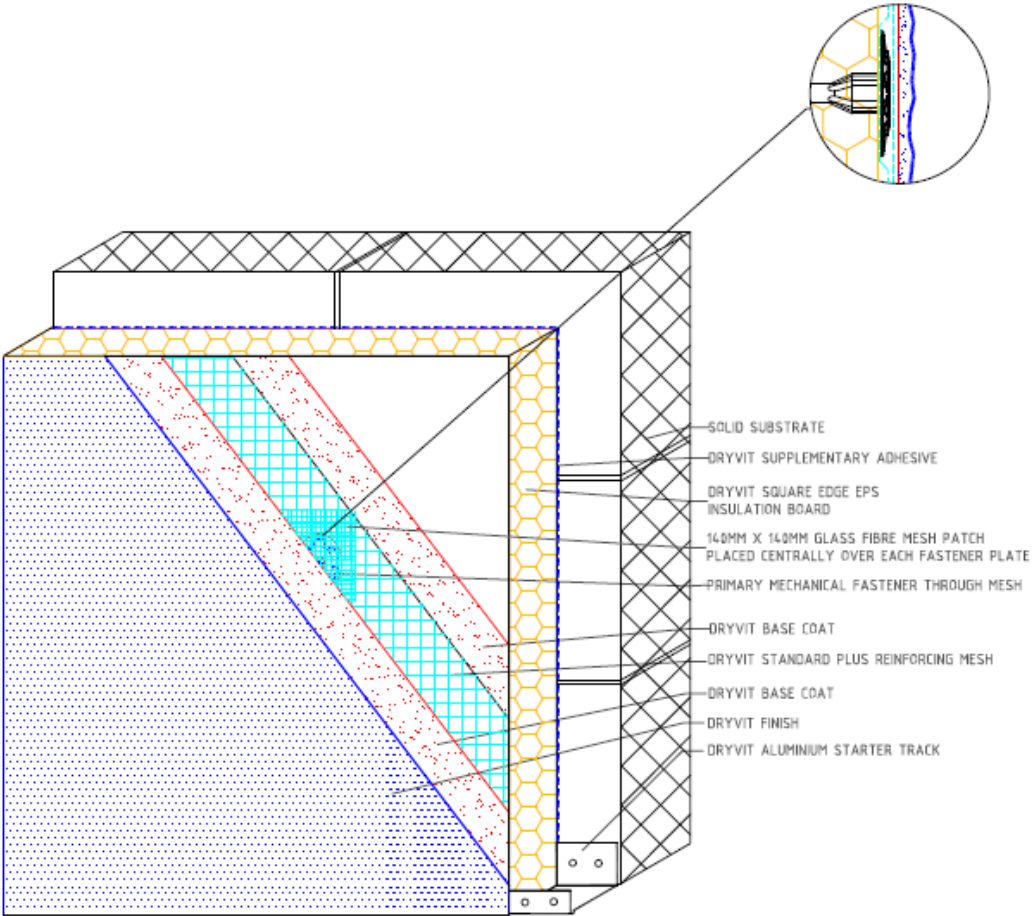

Figure 3c. Outsulation primary mechanical fix with supplementary adhesive with fixings through the mesh
- j. Centrally place a pre-cut 140 mm square of Detail mesh over each fixing head and neatly embed it in the surrounding basecoat mixture ensuring it is fully coated in basecoat. Using a small damp brush, smooth out irregularities and feather the edge of the base coat mixture. The objective is to fill the holes and pin recess in the plate shaped head of the faster and to ensure all mesh is fully coated in base coat to make it as unobtrusive as possible. Refer to Outsulation System Details (see Figure 3c).